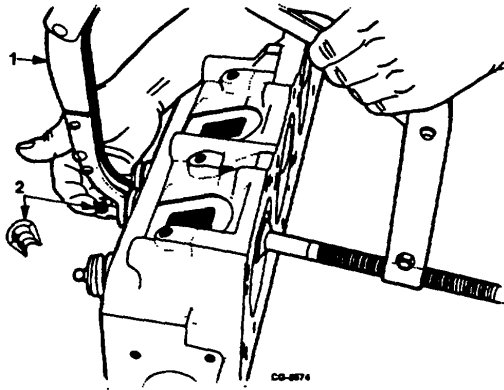

Figure 31. Removing Valve Keepers
- a. Place head assembly in vertical position. Apply valve spring compressor and remove valve keepers or locks (Figure 31). It may be necessary to strike valve ends with a light, soft hammer to loosen valve keepers.